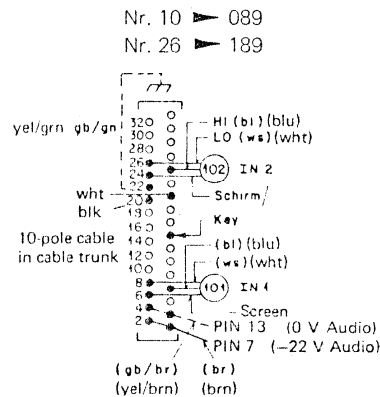

Fig. 6.3.-2
- Feed the switch from Cannon sockets MASTER OUT 1 ... 4 according to fig. 6.3.-4 and 6.3.-6.